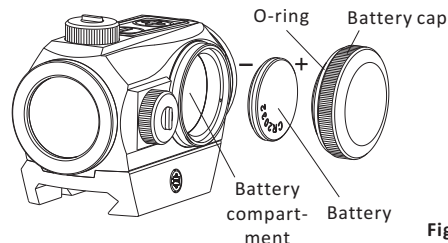

Fig 2
- Please see the Fig 2 for battery installation and replacement:
- Insert the battery into the battery compartment with the correctly marked polarities "+" "-". See Fig2. Properly dispose the depleted battery.